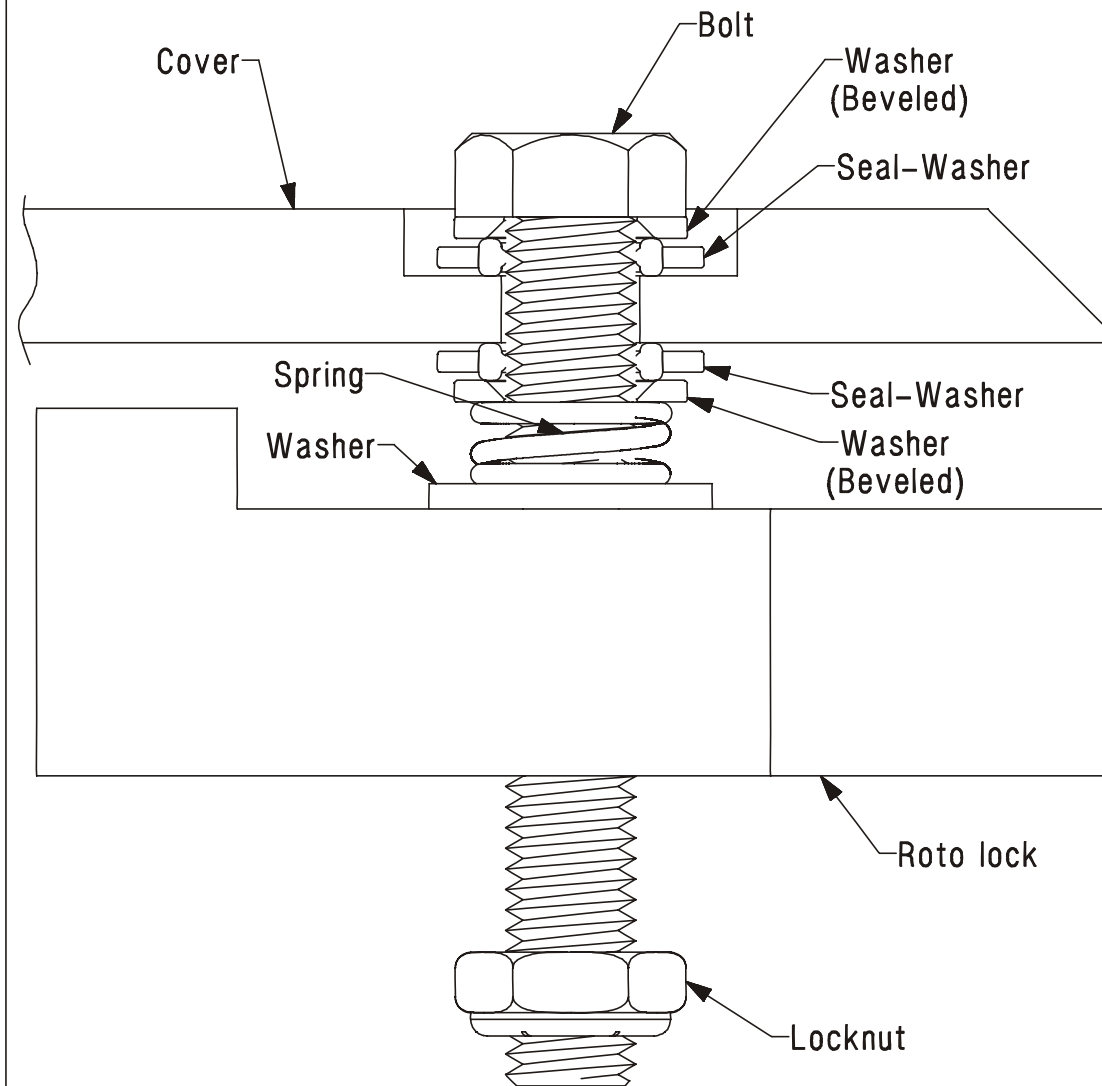

Figure 2
- 6.) Remove the old bolt and install the new bolt with all items oriented properly. See Figure 2 for assembly procedure.